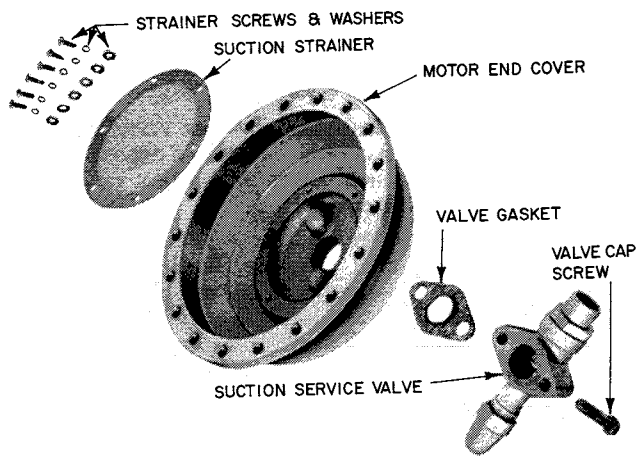

Fig. 18 — Motor End Cover Assembly
2. Remove motor end cover and screws holding disc type strainer (Fig. 18) to cover.